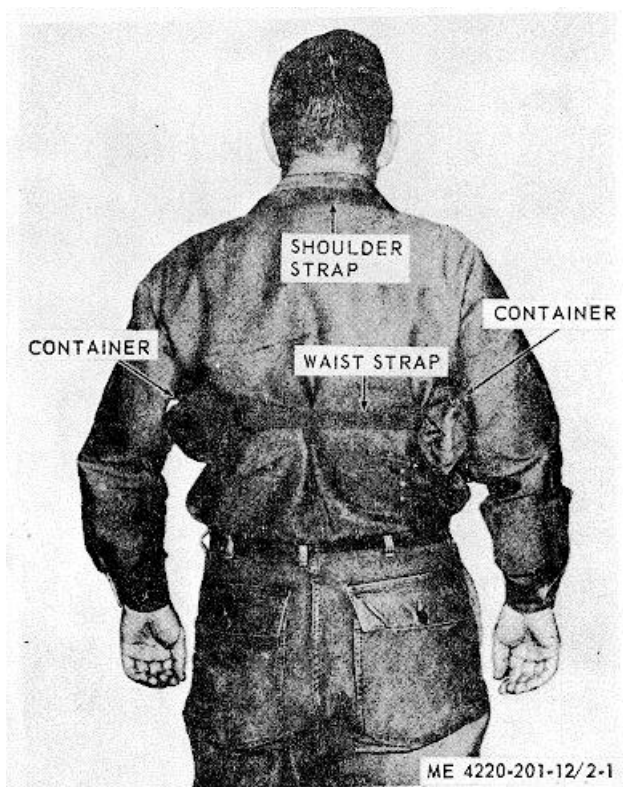

Figure 2-1. Type B-7 underarm life preserver, rear view.
a. Adjust the position of the flotation cell containers on the waist strap so that a container will be directly beneath each armpit (fig. 2-1).
- c. Adjust the strap so that the containers fit snugly under the armpits (fig. 2-1).